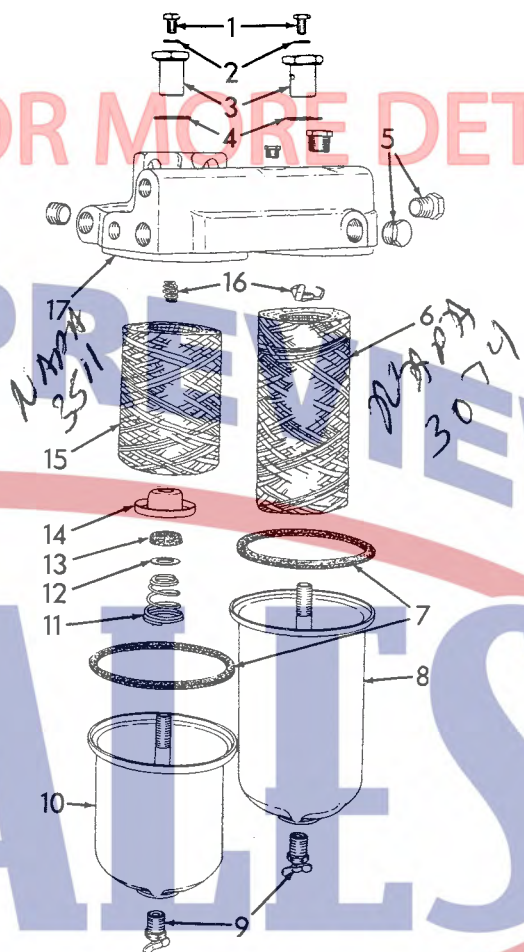

Fig. 49 First and Second Stage Fuel Filter Details
3. REPLACEMENT OF FIRST STAGE FUEL FILTER ELEMENT (Fig. 49).
4. REPLACEMENT OF SECOND STAGE FUEL FILTER ELEMENT (Fig. 49)